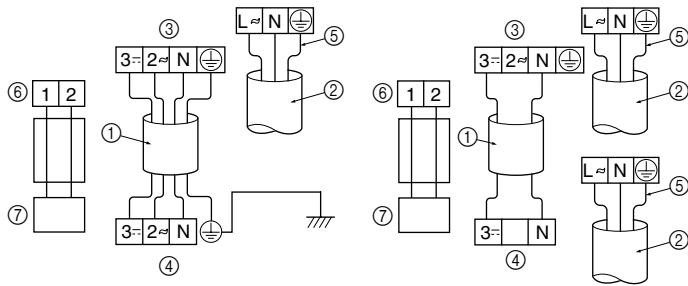

Fig. 7-3
- Ⓖ Outdoor unit (Refer to Fig. 7-3)
Perform wiring as shown in the diagram to the lower left. (Procure the cable locally). (Fig. 7-3)